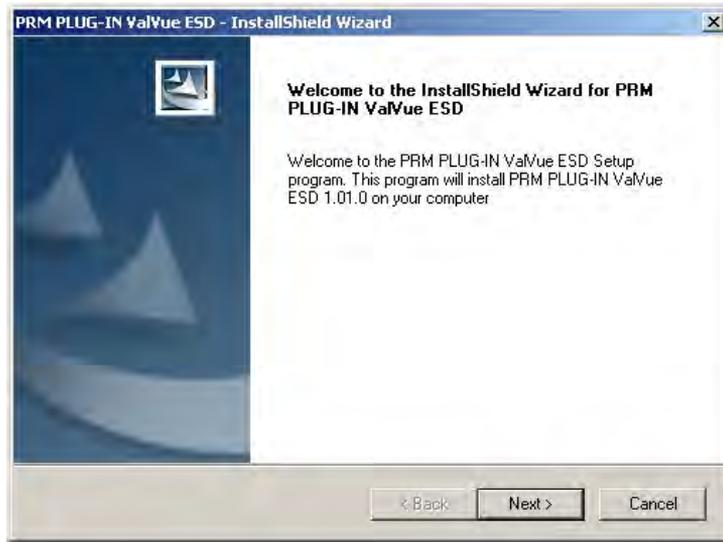

Figure 13 Install Shield PRM Plug-In
2. Right-click on the downloaded *plug\_in\_valvue\_ESD.exe* and select **Run as Administrator** and Figure 13 appears.